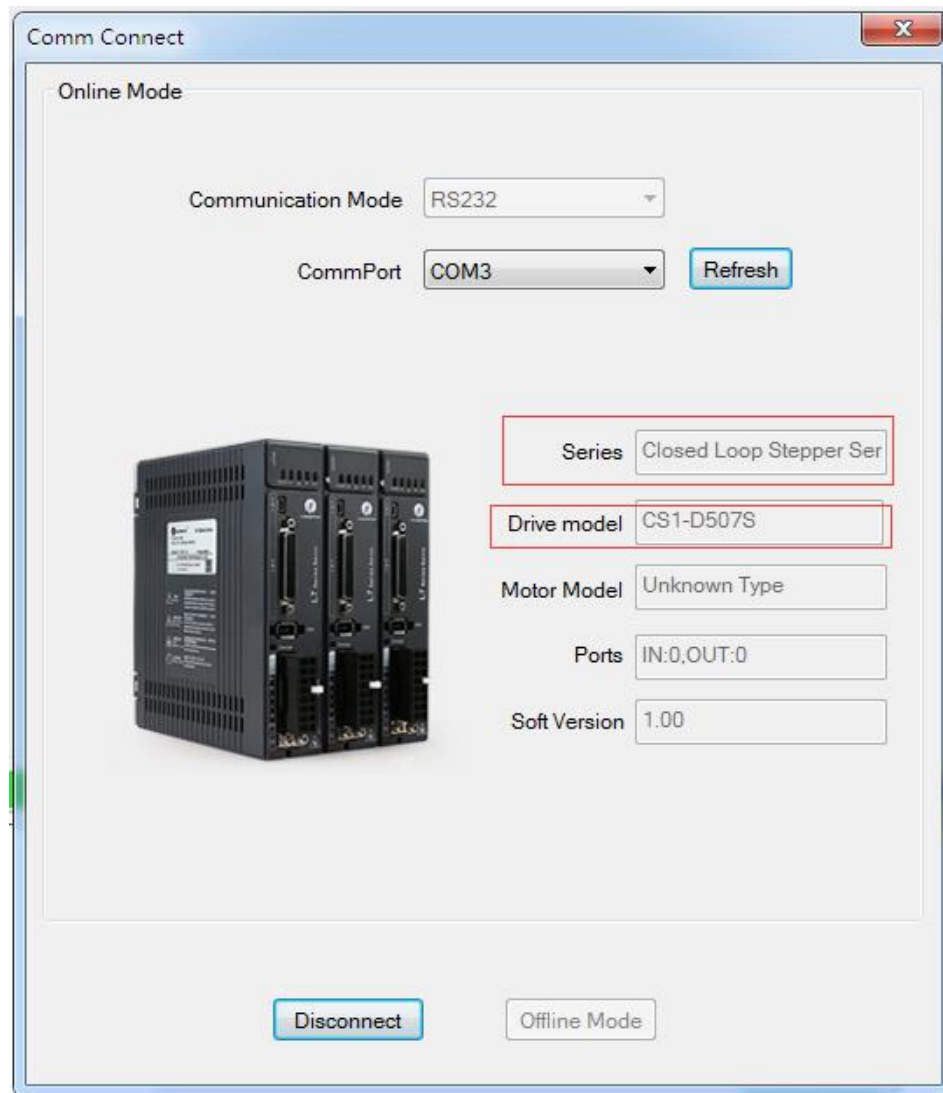

Figure 5: Communication error message
- Click “Connect” button and wait a few seconds. If the drive has been successfully connected, the screen will be automatically displayed with the Series and Drive Model as shown in Figure 5. Otherwise, the following error message will be displayed (Figure 5) .